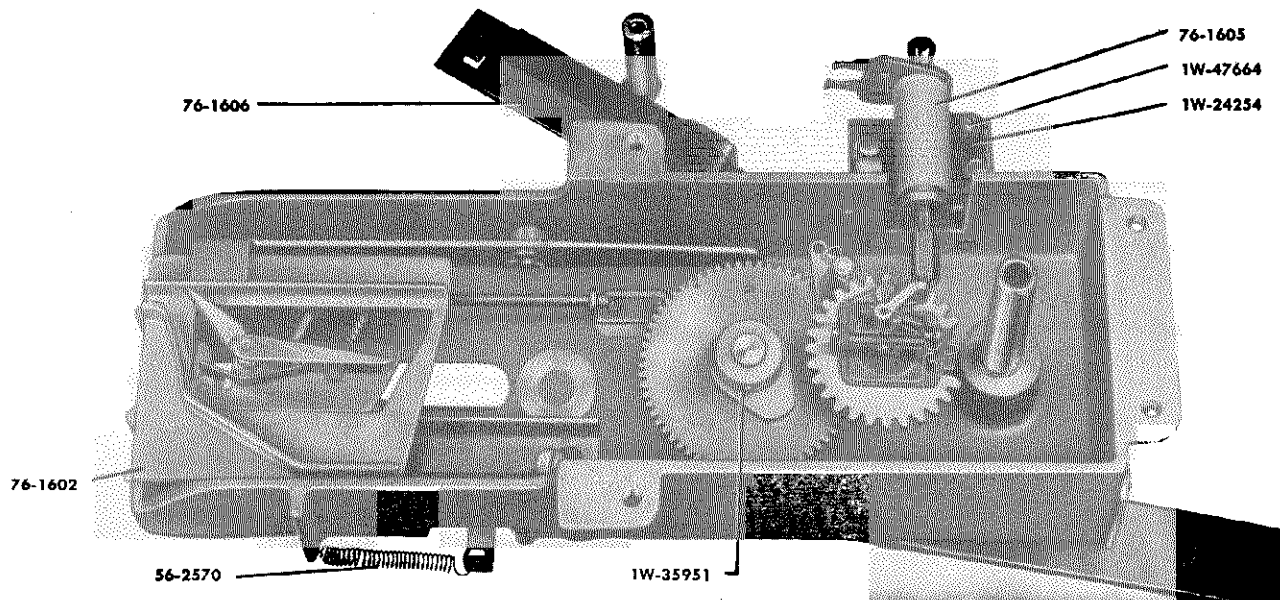

Figure 30—CHANGER MECHANISM ASSEMBLY, TOP VIEW.
- Remove two screws, 1W-47664, figure 30, holding solenoid assembly 76-1605 to mechanism, and remove solenoid.
- c. Remove the two screws, 1W-47664, and lock-washer, 1W-24254, figure 30.
- d. When replacing this assembly, align the solenoid plunger so that its center strikes the latch and trips the segment gear, but does not over-push so as to bind the gear segment. The correct position is shown in figure 30.